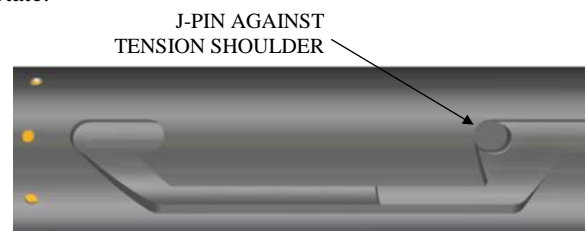

Fig. 8
K-1.17) Position J-pin of J-pin bottom sub (23) against tension shoulder in J-slot of J-body (20) (Fig. 8).